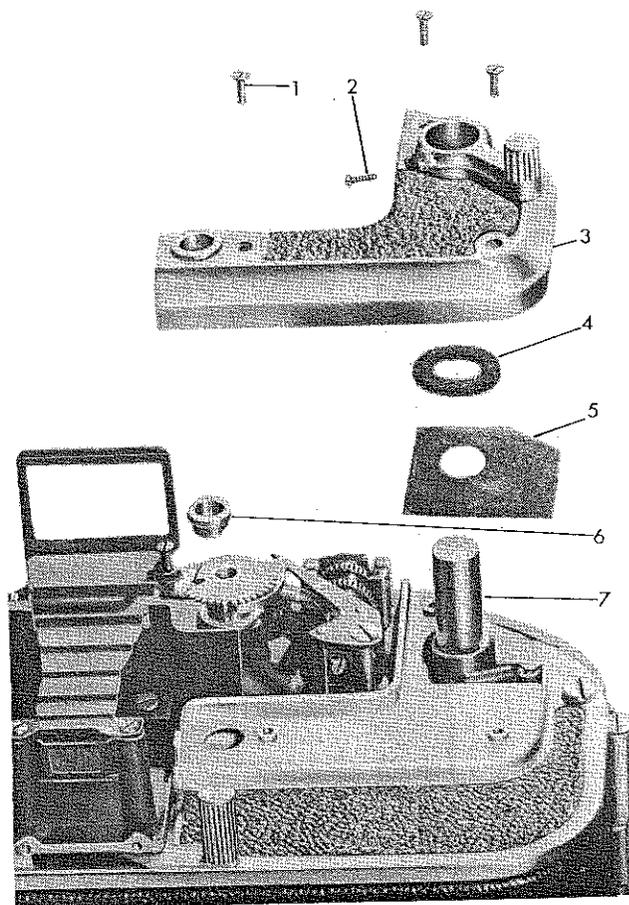

Figure 24—Time Lever Housing Complete, Exploded from Camera
(2) When the cover assembly is lifted off, the focusing scale (5) will spin counterclockwise because it is mounted under spring tension. On reassembly, refer to paragraph 6.m., this section, for instructions on resetting the scale.
e. TIME LEVER HOUSING COMPLETE. (See figure 24.)
(1) Turn the time lever counterclockwise as far as it will go, and loosen the time lever key screw (2) enough to disengage it from the slot in the trigger button (7).